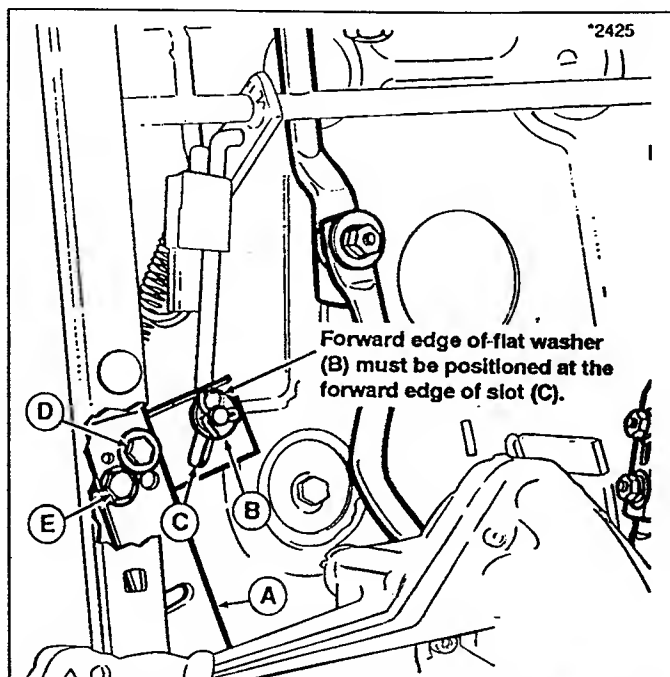

Figure 29. Idler Pulley Adjustment - Hydro Models
3. See figure 29. Inspect the idler pulley plate (A) for correct position. The forward edge of the flat washer (B) should be positioned at the forward edge of slot (C). If adjustment is required, proceed to step 4.
4. Loosen capscrew (D) and tapite screw (E) securing pivot plate (A).
5. Rotate the pivot plate (A) until forward edge of flat washer (B) is positioned at the forward edge of slot (C). Tighten the attaching hardware when adjustment is correct.